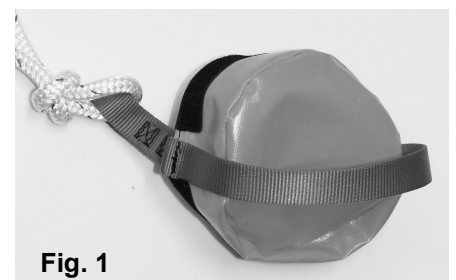

Fig. 1
6. Ensure a stopper knot is tied approximately one foot from the end of the fall line. The fall line is supplied with a stopper knot tied through the loop of the containment bag cap (Cap attached to fall line helps prevent loss of cap). If there is no knot near the end of the line, tie an overhand knot through the loop and approximately one foot from the end of the fall line (Fig. 1).